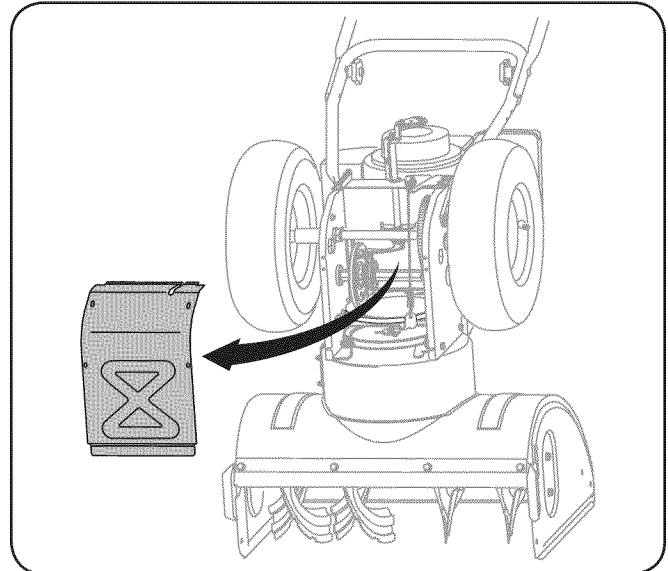

Figure 8-3
5. Remove the frame cover from the underside of the snow thrower by removing the self-tapping screws which secure it. See Fig. 8-3.
- Remove the frame cover from the underside of the snow thrower by removing the self-tapping screws which secure it. Refer to Fig. 8-3.